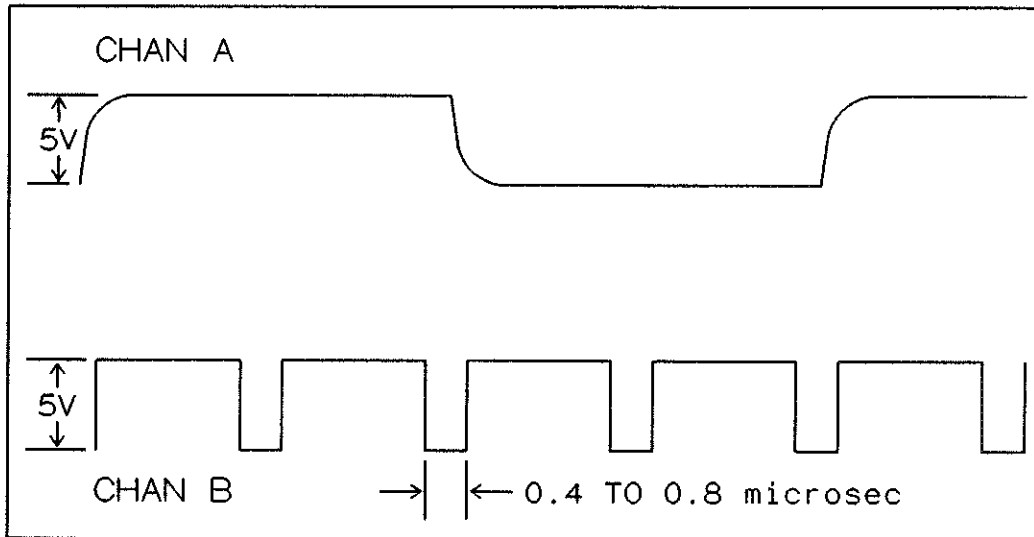

Figure 21-3 SYNC TRIG Waveforms
6. Verify that the waveform displayed on the oscilloscope is as shown in Figure 21-3. The sync pulse shown on channel B of the oscilloscope is between 0.4  $\mu$ S and 0.8  $\mu$ S.
23. Verify that the waveform displayed on the oscilloscope is as shown in Figure 21-3. The sync pulse shown on channel B of the oscilloscope is between 0.4  $\mu$ S and 0.8  $\mu$ S.